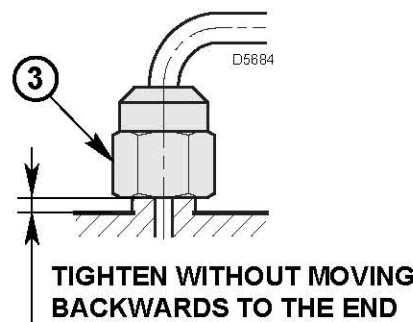

Fig. 13
- During the reassembly of the nozzle-holder assembly screw the nut (3) as shown in the fig. 13.